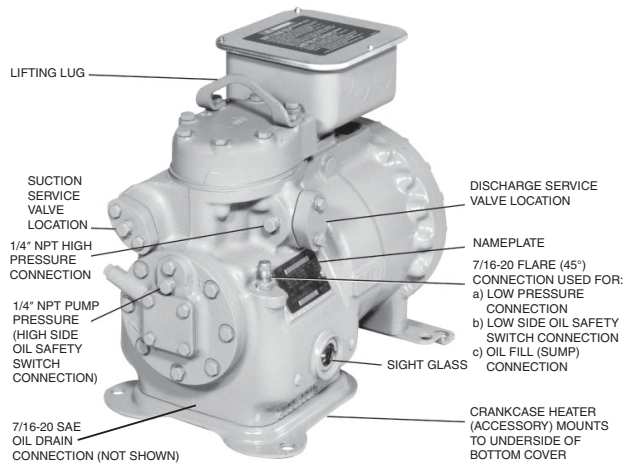

Fig. 1 — 06D 2-Cylinder Compressors 8 and 9 CFM (0.23 and 0.25 m³/min)
Relieve holding charge by removing the cap on the low pressure connection fitting and depressing the internal disc. See Fig. 1 through 4 for applicable low pressure connection fitting location.
2. To add oil: Relieve internal crankcase pressure, isolate crankcase, and add oil through the oil fill connection (see Fig. 1 through 4). To remove excess oil: Reduce internal crankcase pressure to 2 psig (1.15 bar), isolate crankcase, then loosen the oil drain plug allowing oil to seep out past the threads of the plug.
1. All Carlyle 06D compressors are provided with connections for an oil pressure safety switch. The use of an oil pressure safety switch can help prevent compressor failures when loss of lubrication or loss of compressor oil charge occurs. The use of an oil pressure safety switch is required as a condition of warranty for 06D compressors applied on systems in which two or more 06D compressors are connected in parallel. On units in which single 06D compressors are applied, the use of an oil pressure switch is recommended. See Fig. 1 through 4 for oil pressure safety switch connections.